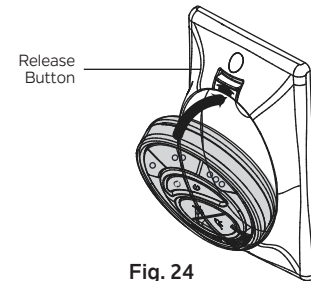

Fig. 24
**Step 1.** Insert the transmitter into the wall plate by inserting the bottom of the transmitter first and then pressing the top of the transmitter into the pocket. The transmitter will fully function from this location or you can remove the transmitter and use it as a hand held device. **(Fig. 24)**